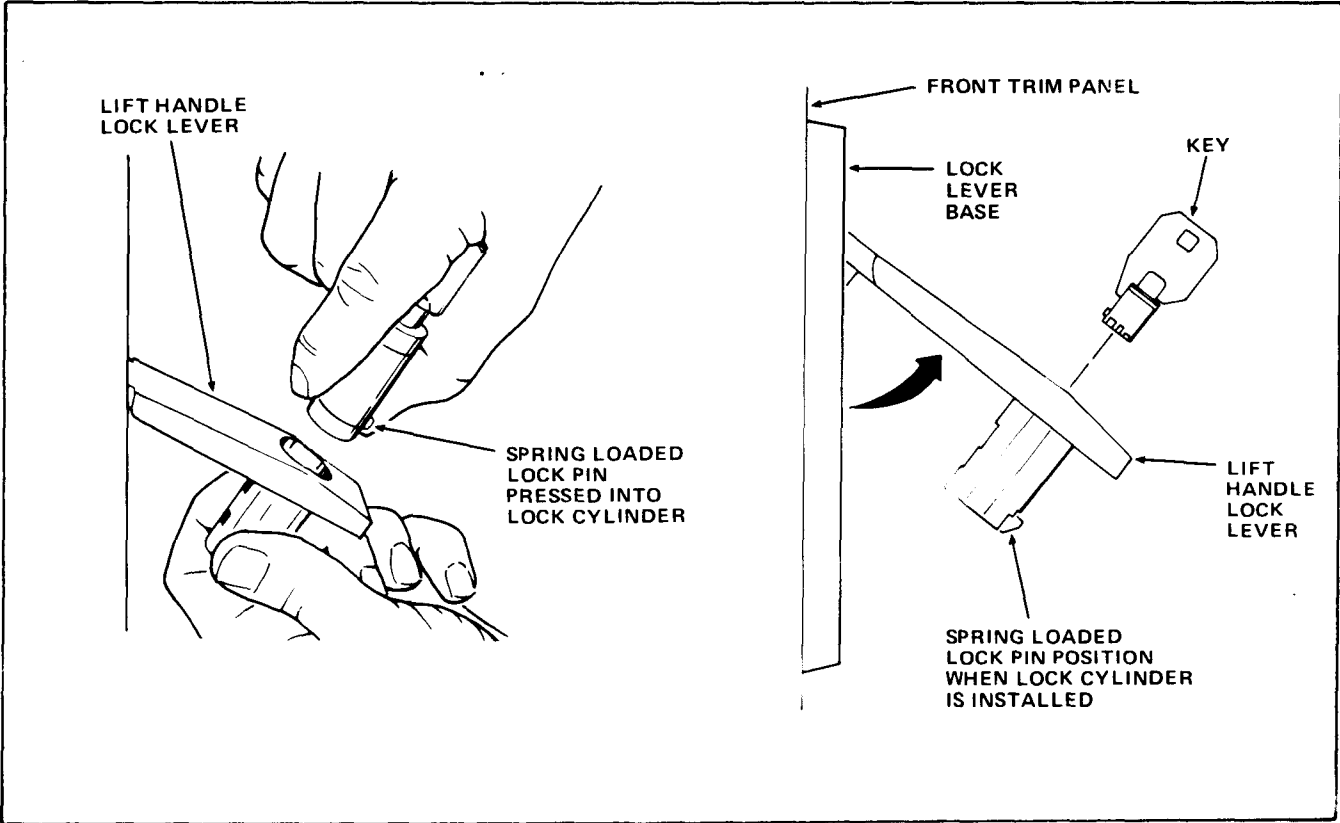

FIGURE 11
18. If the Lock to be used is a long-cylinder Lock, insert the Lock Cylinder into the Lift Handle Lock-pin down. **DO NOT** use the Lock Shock Absorber. See Figure 11.